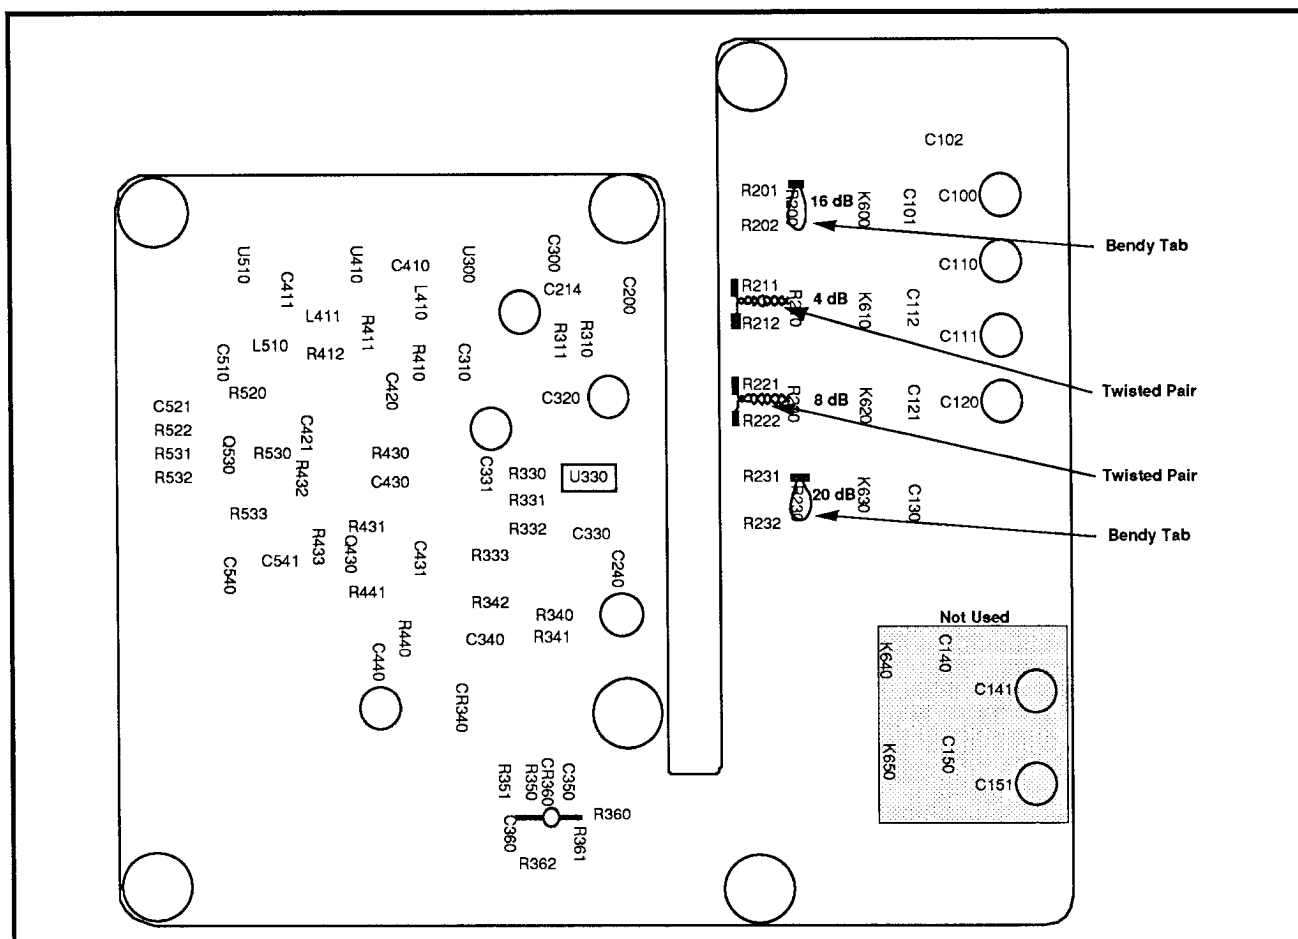

Figure 4-18. Twisted pairs and bendy tab locations on the Attenuator (Amplifier board).
- (7) Set the spectrum analyzer/tracking generator system reference level such that the entire trace is on screen.
- (8) Save the trace in the A register, then enable B, C MINUS A mode by pressing DSPL 2.
- (9) Turn off all displays except the B DISPLAY.
(10) Note the ATTEN value at the upper right corner of the display. Enter the value noted by pressing INPUT 5, entering the noted value, and terminating with W.
(11) There should be a straight horizontal line at the center of the screen. If not, check to see that B, C MINUS A OFFSET is set to CENTER (DSPL 3).
(12) Enable the 4 dB attenuator at the tracking generator output by pressing UTIL 5 7 4 Y. Press any menu button to exit the menu.
(13) Increase the reference level by 4 dB.
(14) Check that the trace is within 1 dB of center screen at 100 MHz, and check that the total excursion of the trace from 100 kHz to 1.8 GHz is no more than 1 dB.
(15) If the trace is not within 1 dB of center screen, add a "bendy" tab (adjustment wire) to the attenuator pad. See Figure 4-18.
(16) Adjust the bendy tab such that the trace is within 1 dB of center screen.
(17) Enable the 8 dB attenuator at the tracking generator output by pressing UTIL 5 7 8 Y. Press any menu button to exit the menu.
(18) Increase the reference level by 4 dB.
(19) Check that the trace is within 1 dB of center screen at 100 MHz, and check that the total excursion of the trace from 100 kHz to 1.8 GHz is no more than 1 dB.
(20) If the trace is not within 1 dB of center screen, add a bendy tab to the attenuator pad. See Figure 4-18.
(21) Adjust the bendy tab such that the trace is within 1 dB of center screen.
(22) Enable the 16 dB attenuator at the tracking generator output by pressing UTIL 5 7 16 Y. Press any menu button to exit the menu.
(23) Increase the reference level by 8 dB.
(24) Check that the trace is within 1 dB of center screen at 100 MHz, and check that the total excursion of the trace from 100 kHz to 1.8 GHz is no more than 1 dB.
(25) If the trace is not within 1 dB of center screen, add a bendy tab to the attenuator pad. See Figure 4-18.
(26) Adjust the bendy tab such that the trace is within 1 dB of center screen.
(27) Enable the 20 dB attenuator at the tracking generator output by pressing UTIL 5 7 20 Y. Press any menu button to exit the menu.
(28) Increase the reference level by 4 dB.
(29) Check that the trace is within 1 dB of center screen at 100 MHz, and check that the total excursion of the trace from 100 kHz to 1.8 GHz is no more than 1 dB.
(30) If the trace is not within 1 dB of center screen, add a bendy tab to the attenuator pad. See Figure 4-18.
(31) Adjust the bendy tab such that the trace is within 1 dB of center screen.